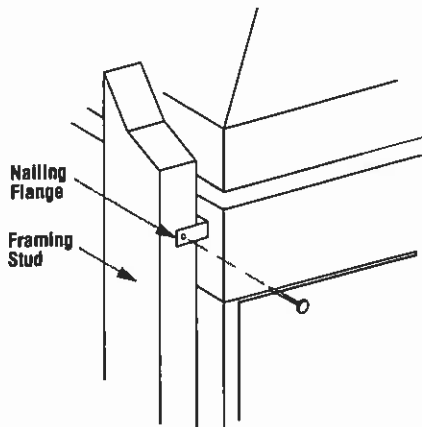

Figure 26
Step 4. The fireplace should be secured to side framing members using nailing tabs. Use 8d nails (Figure 26).